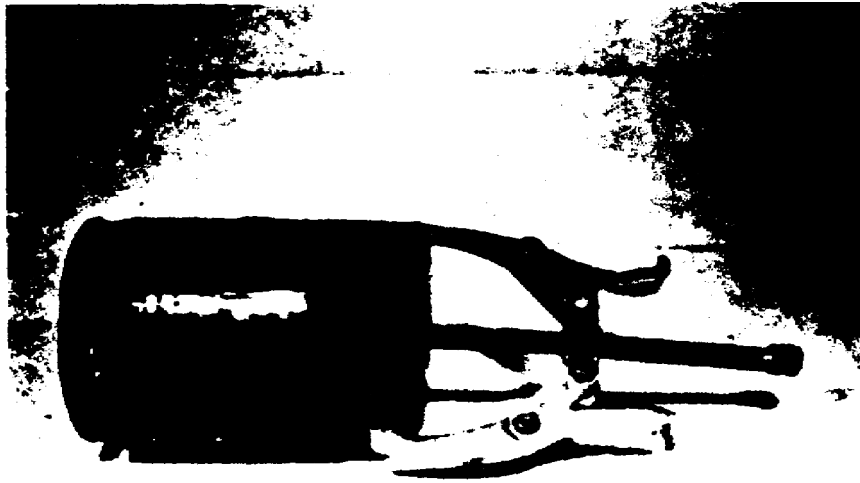

Figure 8. Removing housing.
- e. Remove drive end housing (using puller) (fig 8).